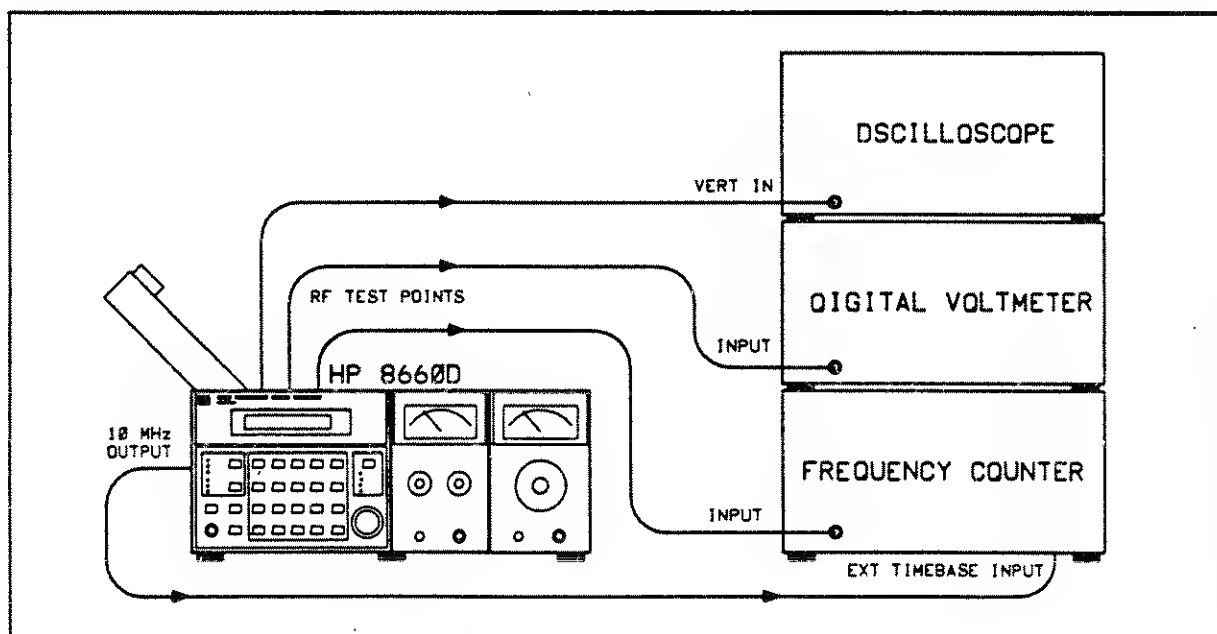

Figure 5-22. SL1 Test Setup
1. Set up test equipment as shown in Figure 5-22.